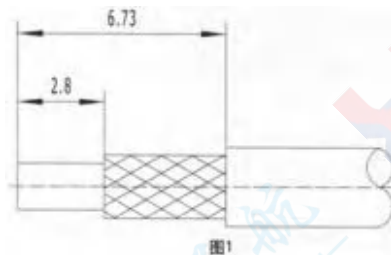

图1
① Strip the cable as shown in Figure 1. The end face must be cut clean and perpendicular to the axial plane of the cable. The cable must not be deformed during cutting. Thermal stripping is recommended.